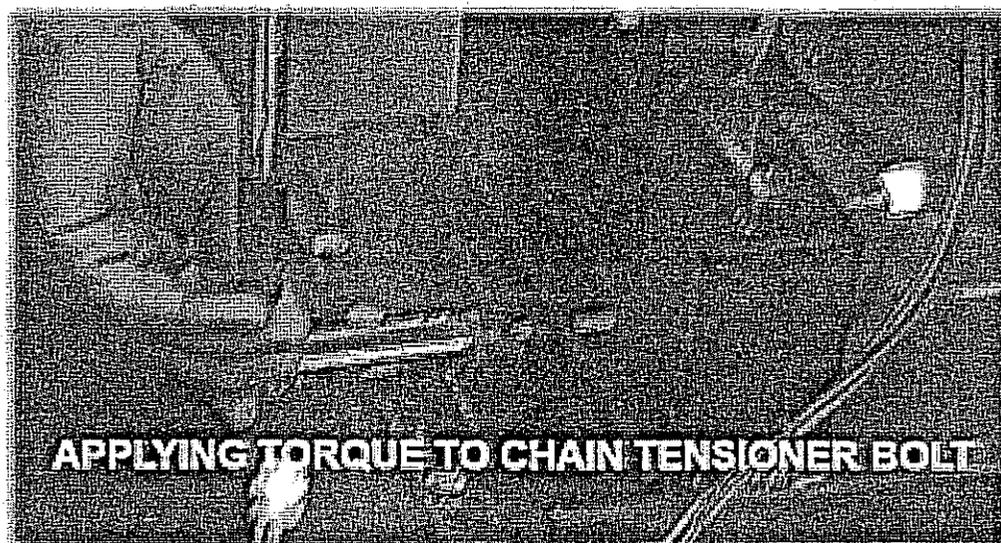

Figure 11
9. Using a torque wrench, apply 12 ft-lbs of torque to the tensioning bolt. (See figure 11).